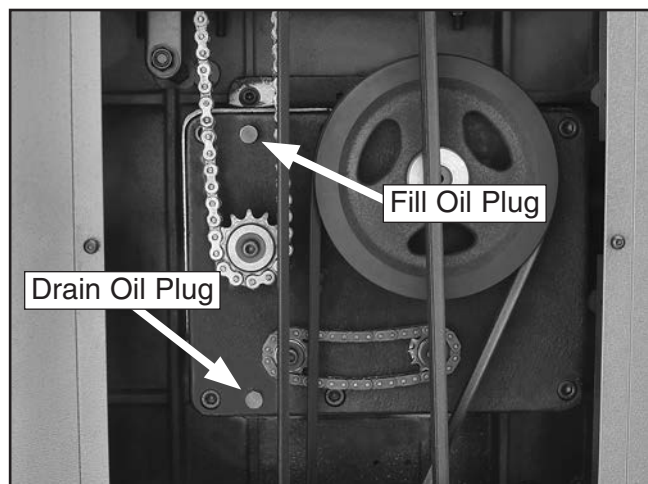

Figure 17. Cutterhead/feed gearbox fill and drain oil plugs (upper left access panel removed).
3. Remove the fill oil plug (see **Figure 17 & 18**).